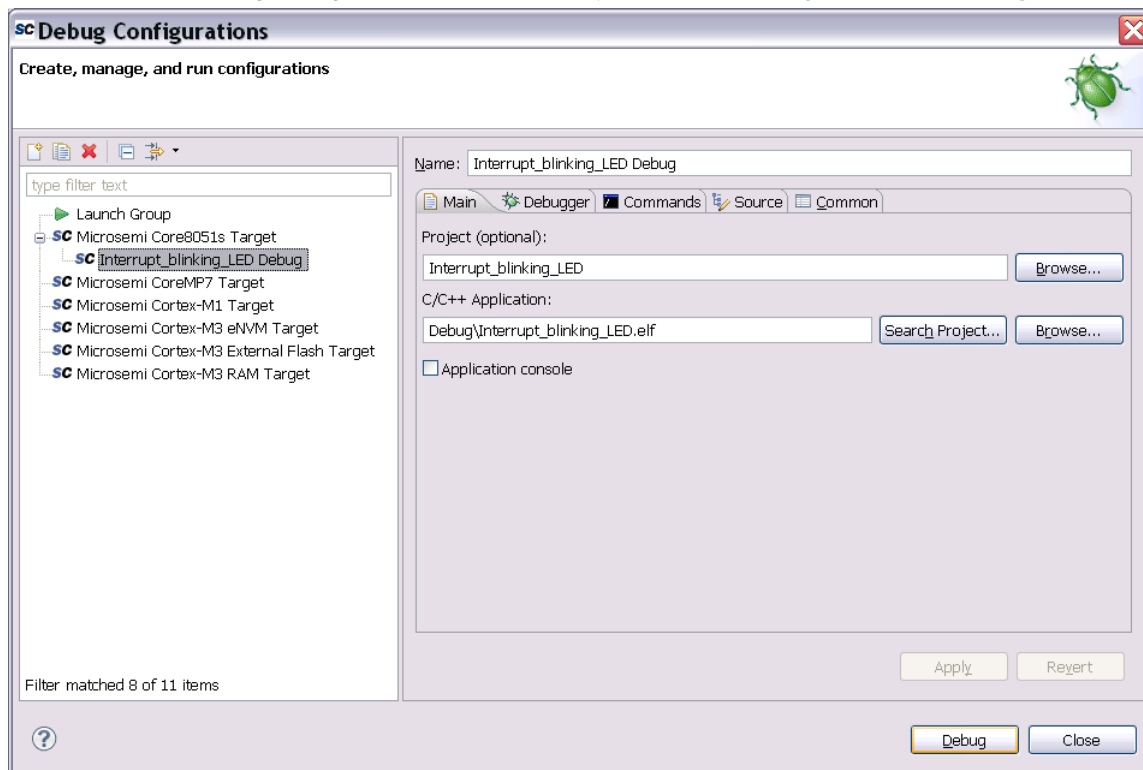

Figure 49 Launching Debug Session
- The Debug Configuration window is displayed, as shown in Figure 49. Click **Debug**.